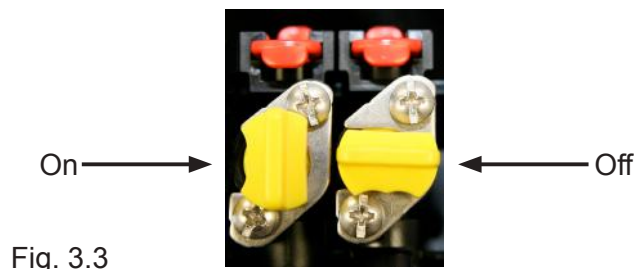

Fig. 3.3
8. Turn on water and syrup to flow controls by rotating yellow Shut-off knobs (see Fig. 3.3).
11. Dispense about two (2) cups and dispose. Using a ratio cup check ratio. If not in spec use a small screwdriver to adjust. Clockwise increases flow. Counterclockwise decreases flow.